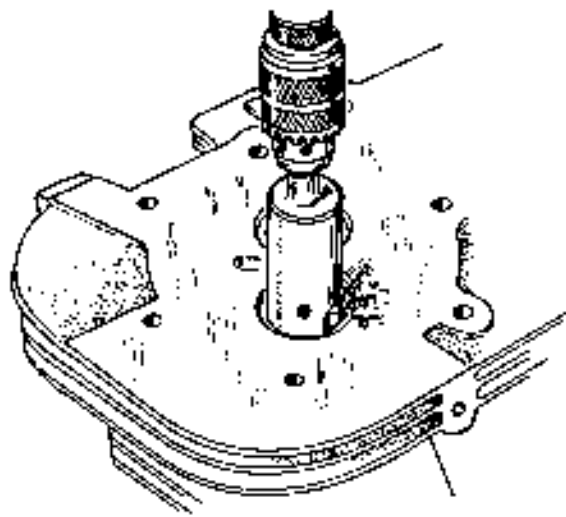

FIGURE 15-12. REMOVING VALVE SEATS - J-SERIES
2. A valve seat remover mounted in a drill press should be used to remove valve seats from J-series engines, Figure 15-12. Set the tool to cut 1/64 inch (0.40 mm) from the edge and bottom of the seat. The remaining rind is easy to remove.